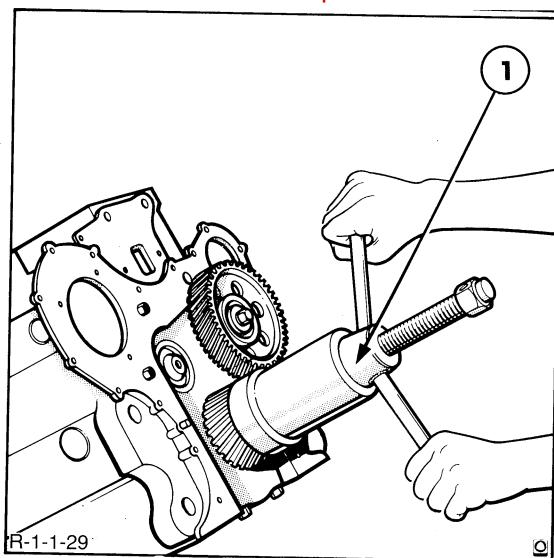

Figure 29
2. Locate the key then use Tool No. CT6069-A or 2134 and CT6069-1 or 1237 to install the crankshaft gear, Figure 29.